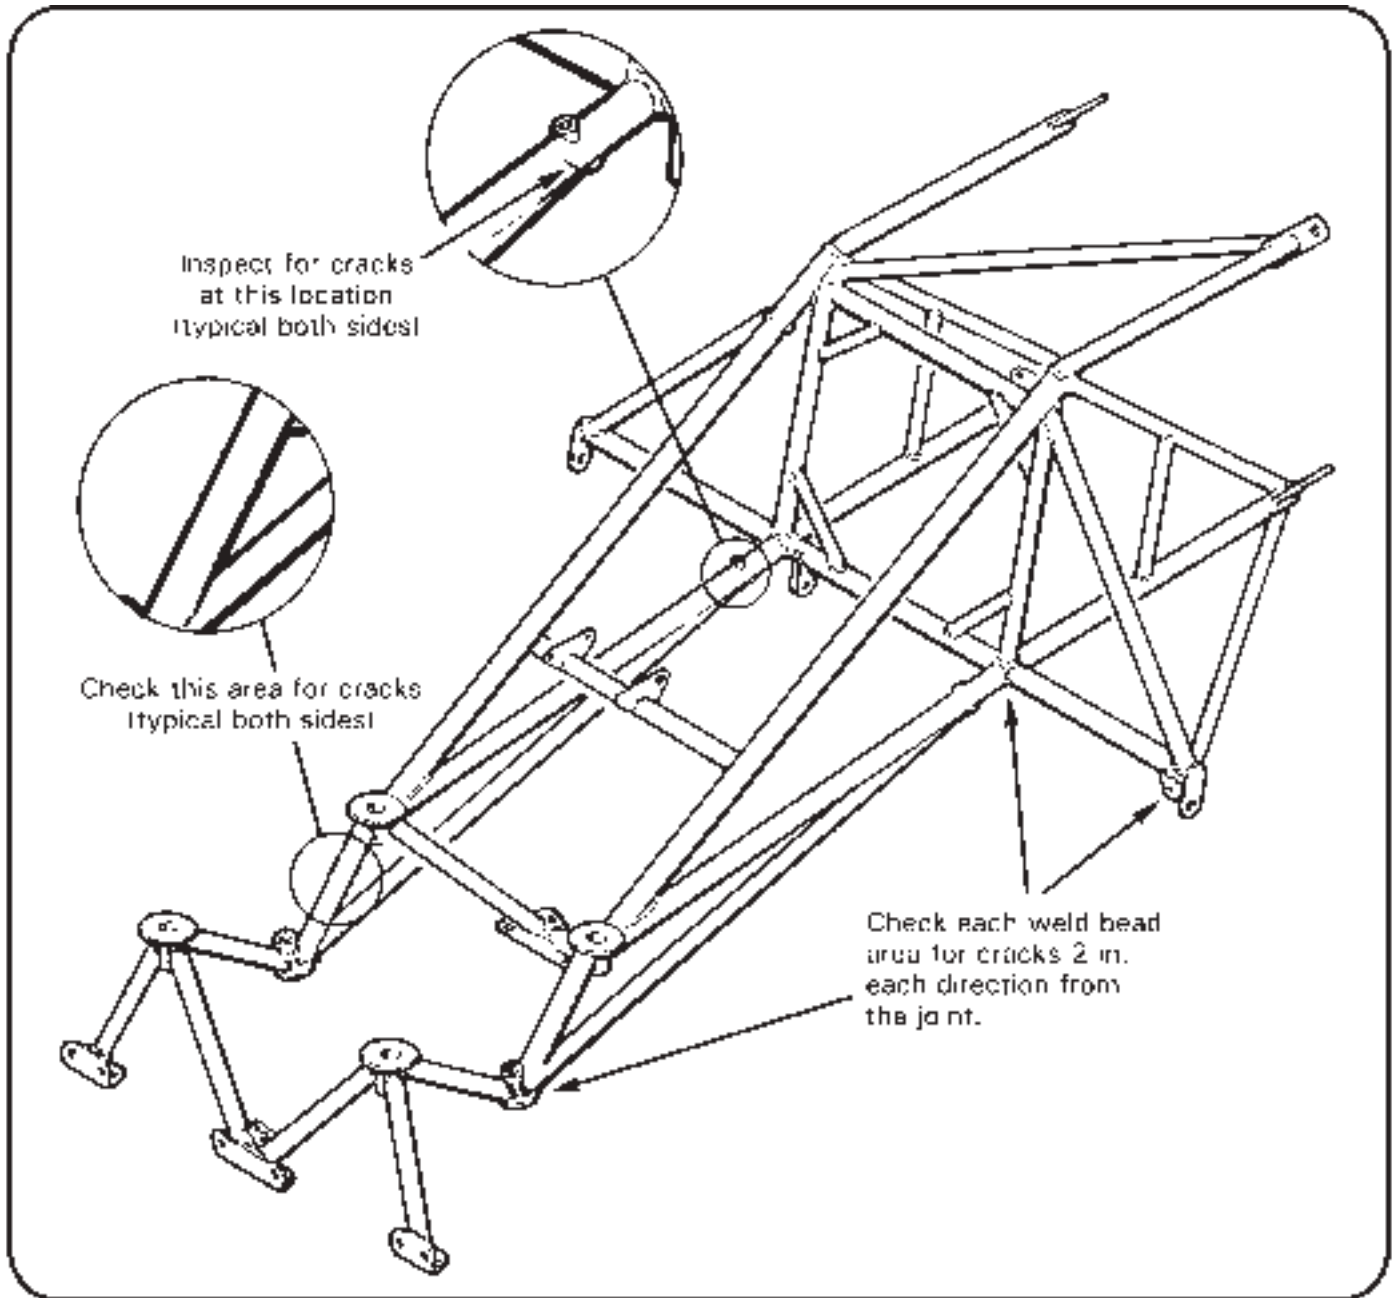

FIGURE 2-15 UPPER FRAME INSPECTION
1. Carefully clean all paint, primer, oil, grease, etc. from steel tube structure around and adjacent to four tailcone mounts (see Figure 2-15).